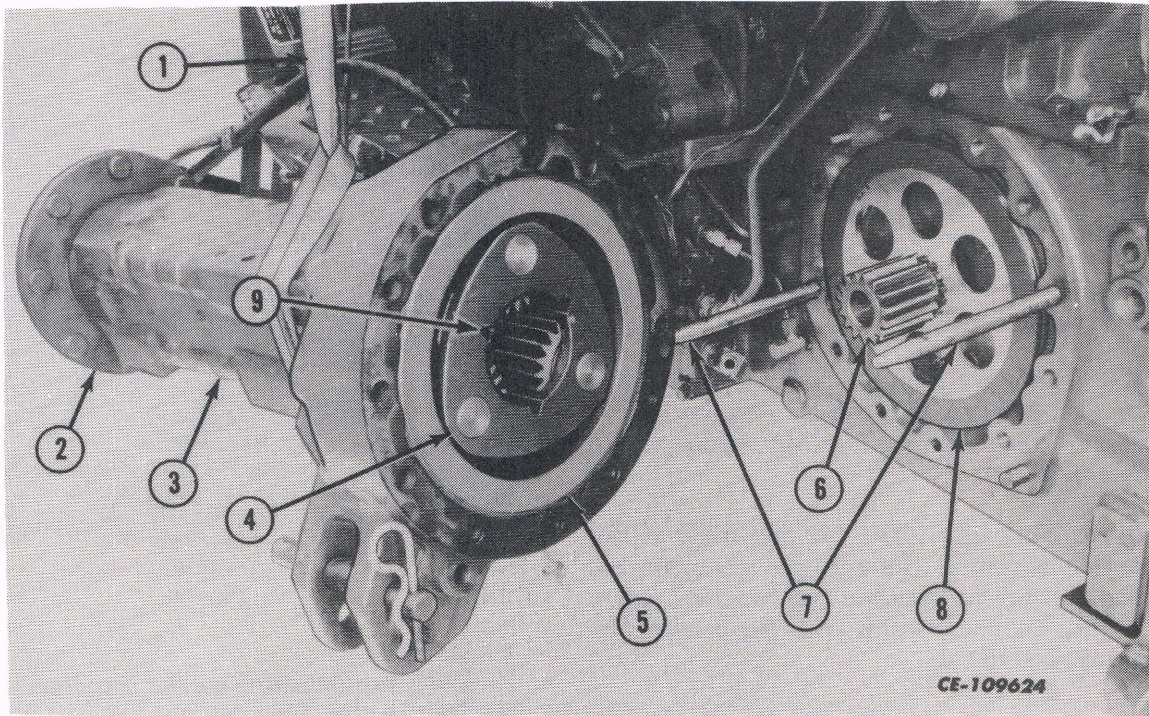

Fig. 2
4. Remove the planetary drive shafts (6). The right planetary drive shaft is longer than the left due to the differential lock. See Fig. 2.
5. Remove the brake disc (5) and brake center disc (8). See Fig. 2.